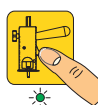

Figure 6.6 Selecting Pro Pull weld mode
1. Make sure the welder is turned on. Press the Pro Pull weld mode button (fig 6.6) The green light will light up when engaged.